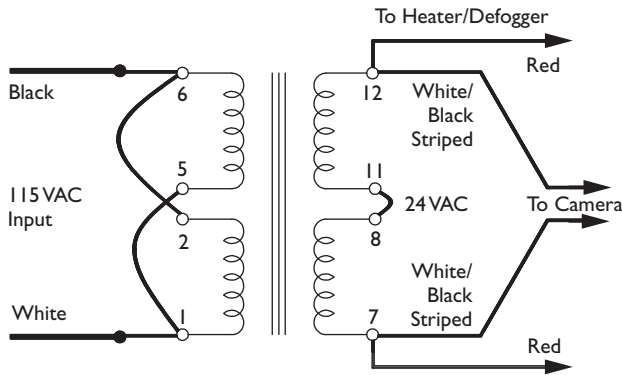

Figure 4 HS9384-6HP Transformer Wired for 24 Volt Camera
3. Connect the secondary flying leads (white/black striped wires/pins 7 and 12) to the camera's 24 volt input. See wiring diagram **Figure 4** for clarification.